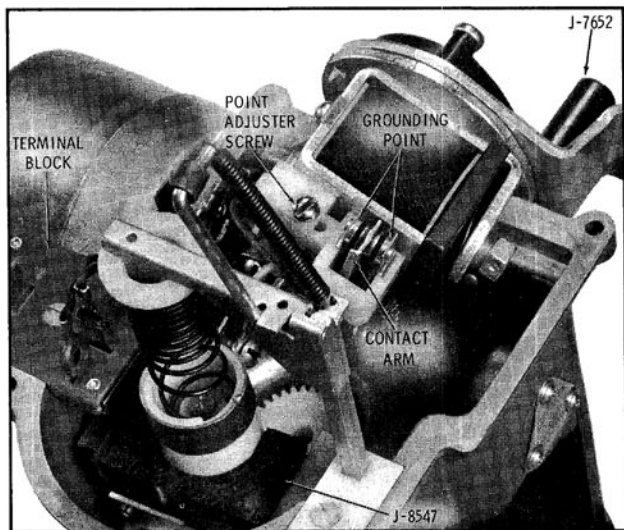

Fig. 12-50 Checking Point Gap
8. Use a feeler gauge to measure gap between contact arm and either grounding point on adjuster. (Fig. 12-50) This gap should be approximately one-half of the full gap measurement in Step 2. If gap is not within specifications, contact arm is not centered properly. Loosen screw on point adjuster, (Fig. 12-50) and move adjuster until contact arm is centered between the two grounding points on the points adjuster. Then tighten point adjuster screw and recheck gap.